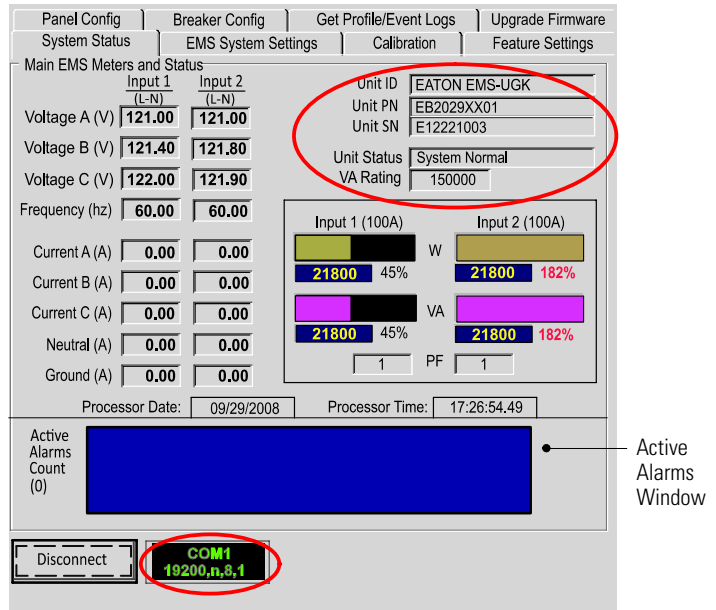

Figure 15. System Status Page (Connected)
5. Verify that meter and status information from the EMS-UGK displays on the page, similar to the example shown in Figure 15.
If your system is dual input but only one input displays on the System Status page, click the **Feature Settings** tab and select the **Enable Dual Input Mode** check box. Return to the System Status page to verify that both inputs display (as shown in Figure 15), then continue to Step 6.